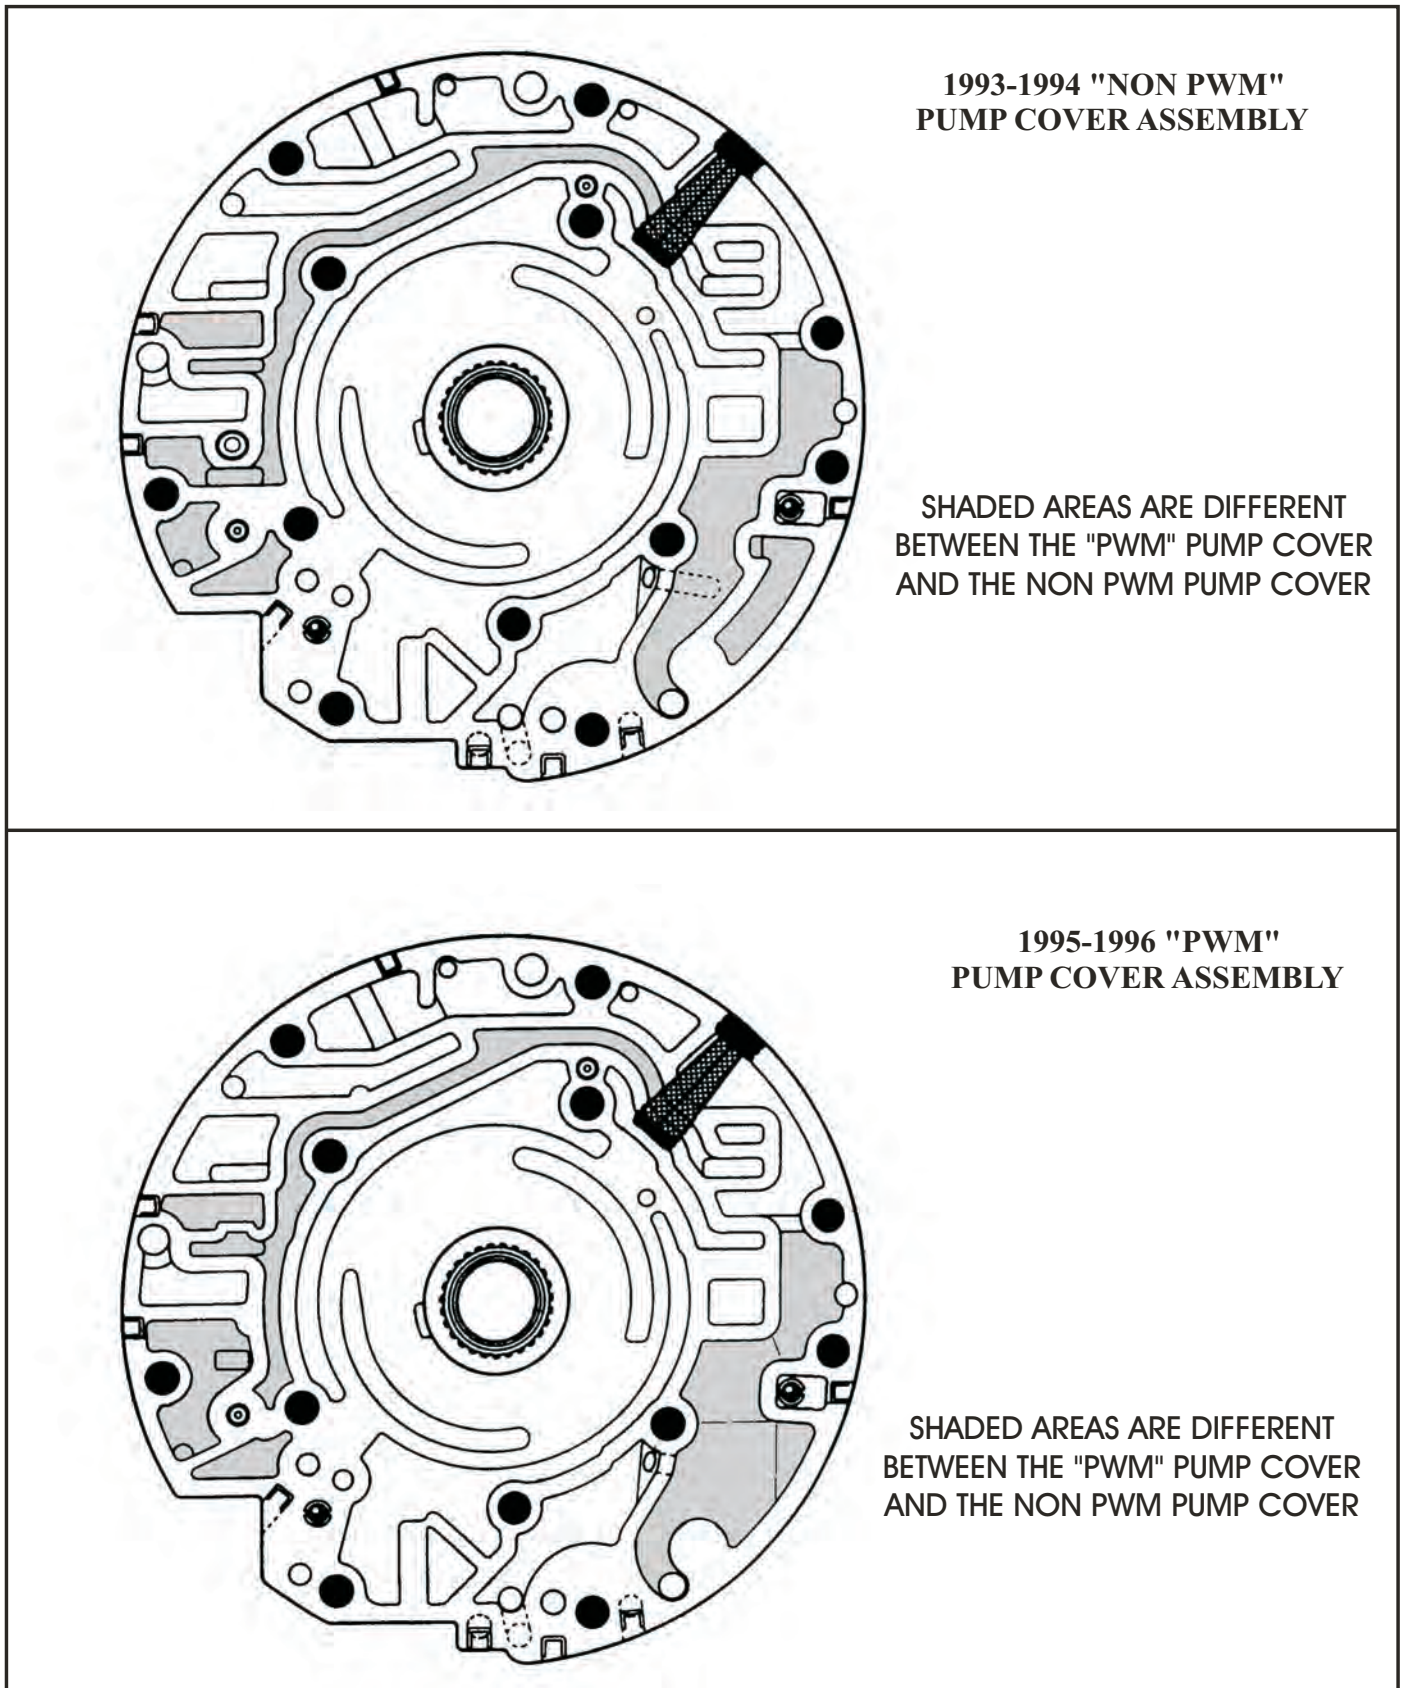

Figure 5
- (4) OIL PUMP COVER (STATOR) - There were changes in the worm track configuration on the new design pump cover to accommodate the added TCC PWM solenoid. The pump cover can be easily identified with "PWM" cast into the pump cover, in the location shown in Figure 6. Refer to Figure 5 for the differences in the worm track area, which we have shaded for easy reference.
- (5) TURBINE SHAFT BALL CAPSULE - Change in orifice sizes to accommodate the added TCC PWM solenoid, and calibrate converter release oil to the new TCC PWM solenoid.